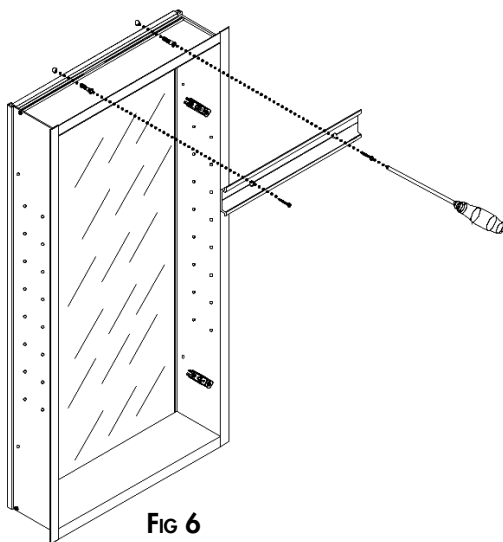

FIG 6
5. Remount cabinet and attach with #10 x 1 $\frac{1}{2}$ " wood screws (Fig 6).